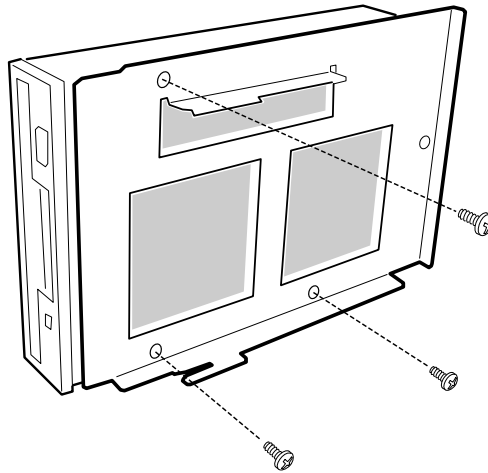

Figure 14: Removing the Diskette Drive Carrier
8. Remove the three screws that hold the carrier to the drive, and set them and the carrier aside. See Figure 14.